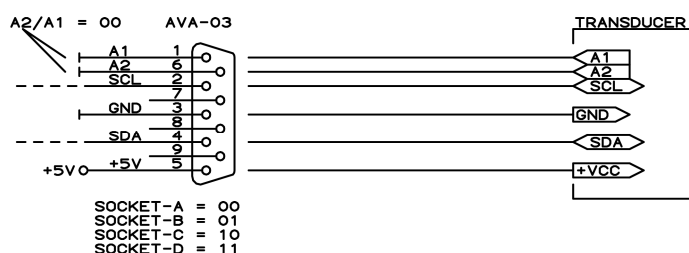
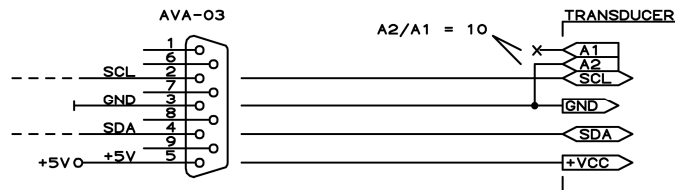

Figure 1: 6-wire connection, I²C address coded by the AVA-03 socket.
Figure 2: 4-wire connection, I²C address coded at the transducer.
There are four 9-way D-type sockets (A...D) for connecting up to four I²C transducers. The connectors carry +5V, GND, SCL, SDA and two address lines A2 and A1. The address lines are either open (1) or grounded (0) and are coded differently at each socket: The first socket sets A2=0/A1=0, the second socket sets A2=0/A1=1, the third socket sets A2=1/A1=0 and the fourth socket sets A2=1/A1=1. This means that different I²C addresses are allocated automatically for each socket, provided the address pins are wired through to the transducers, see the examples shown in fig. 1 and fig. 2 below.